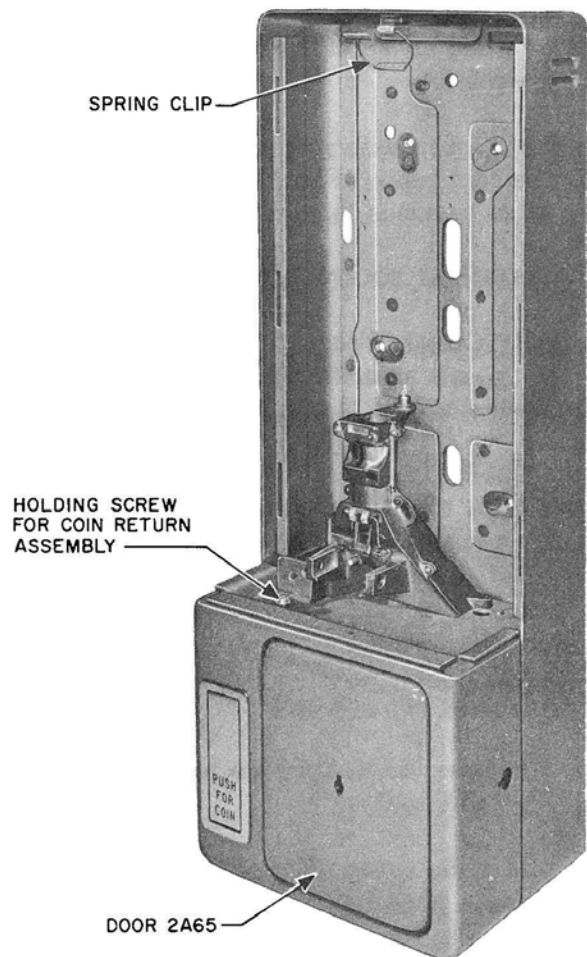

Fig. 5 — Mounting Plate Assembly
3.04 All components are mounted in the chassis assembly. (See Fig. 5.) The spring clip at the top of the set holds the coin chute and totalizer assembly in place. The coin return assembly can be removed by loosening the holding screw. (See Fig. 5.) The chassis assembly is removed by loosening the screw, lowering the assembly, and lifting out.